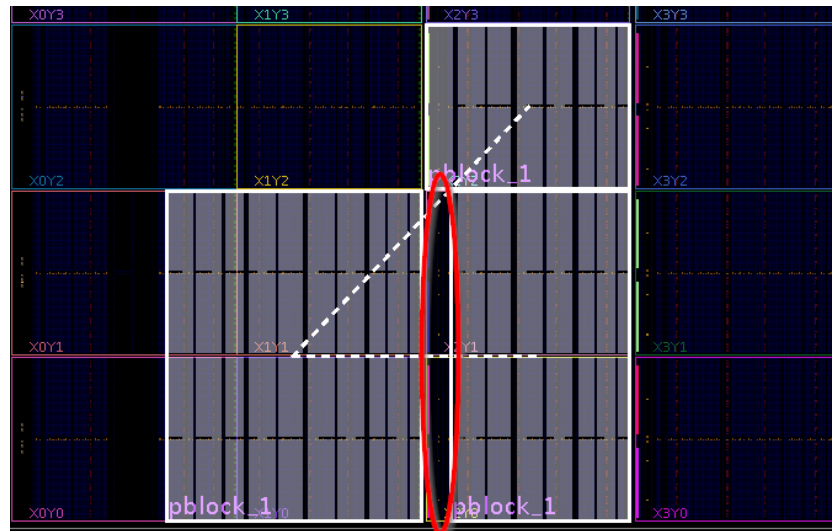

Figure 7-9: **Unsupported Gap in the IOB Column**
- Gaps in the IOB/XIPHY ranges, such as the gap in the IOB column shown in Figure 7-9 below.